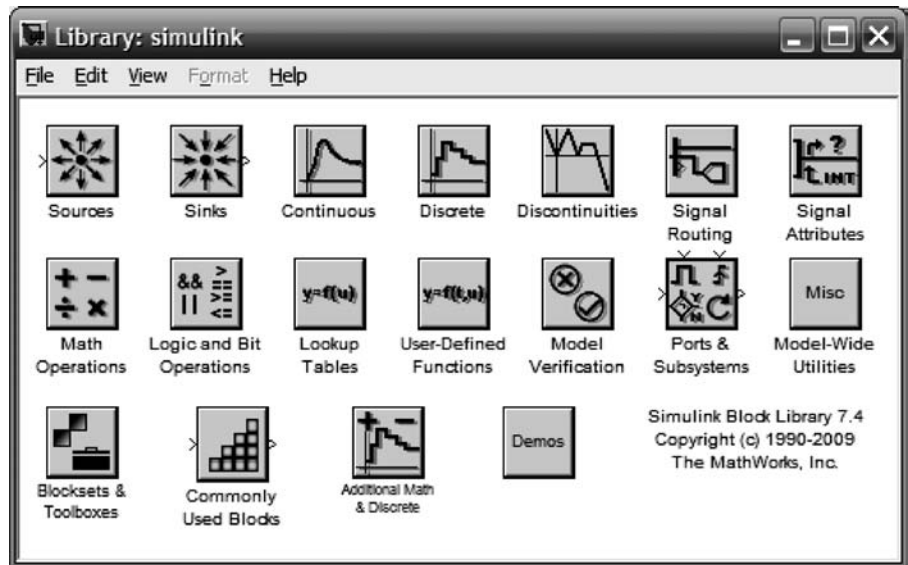

FIGURE C.4 Simulink Block Library window
Another approach to revealing the Simulink block library is to type `open_system('simulink.mdl')` in the **MATLAB Command Window**. The window shown in Figure C.4 is the result. Double-clicking any of the libraries in Figure C.4
3. **Assemble and label subsystems** Drag required subsystems (blocks) to your model window from the browser, such as those shown in Figure C.3. Also, you may access the blocks by double-clicking the libraries shown in Figure C.4. You can position, resize, and rename the blocks. To position, drag with the mouse; to resize, click on the subsystem and drag the handles; to rename, click on the existing name, select the existing text, and type the new name. The text can also be repositioned to the top of the block by holding the mouse down and dragging the text.
Alternatively, all blocks can be dragged from the **Library: simulink** window shown in Figure C.4. The **Mux** can be found under **Signal Routing** in the **Library: simulink** window.